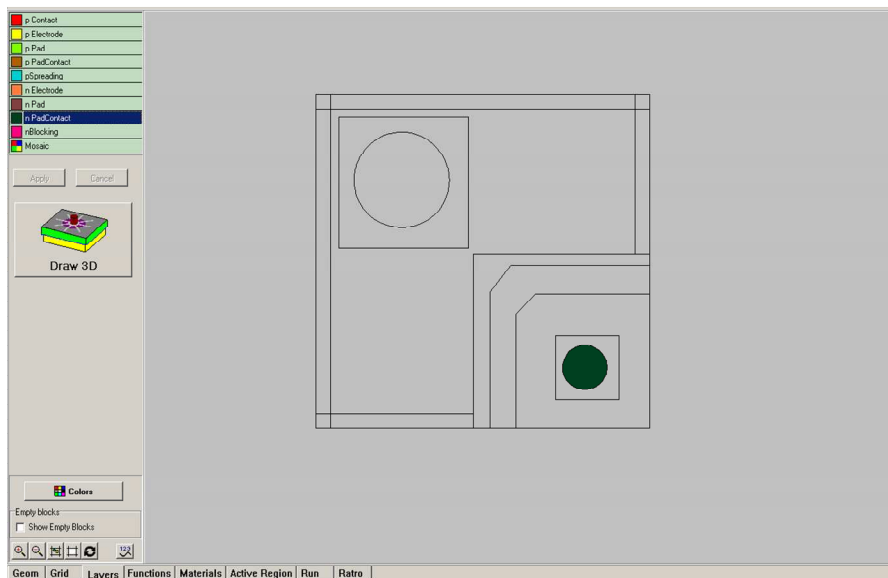

Fig. 26
***n-pad***. Area of the pad on n-electrode (see Fig. 26). This layer should lie inside the n-electrode.